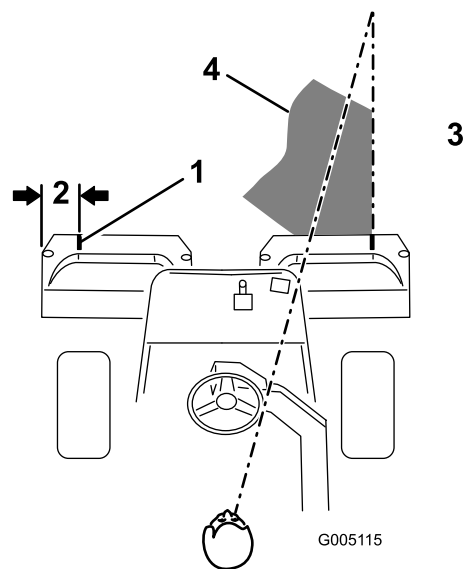

Figure 29
2. Either place a strip of white tape or paint a line onto each basket paralleling the outer edge of each basket (Figure 29).
3. Overlap a minimal amount with the previous cut on return passes. To assist in maintaining a straight line across the green and keep the machine an equal distance from the edge of the previous cut, establish an imaginary sight line approximately 6 to 10 ft (1.8 to 3 m) ahead of the machine to the edge of the uncut portion of the green (Figure 29 and Figure 30). Some find it useful to include the outer edge of the steering wheel as part of the sight line; i.e. keep the steering wheel edge aligned with a point that is always kept the same distance away from the front of the machine (Figure 29 and Figure 30).